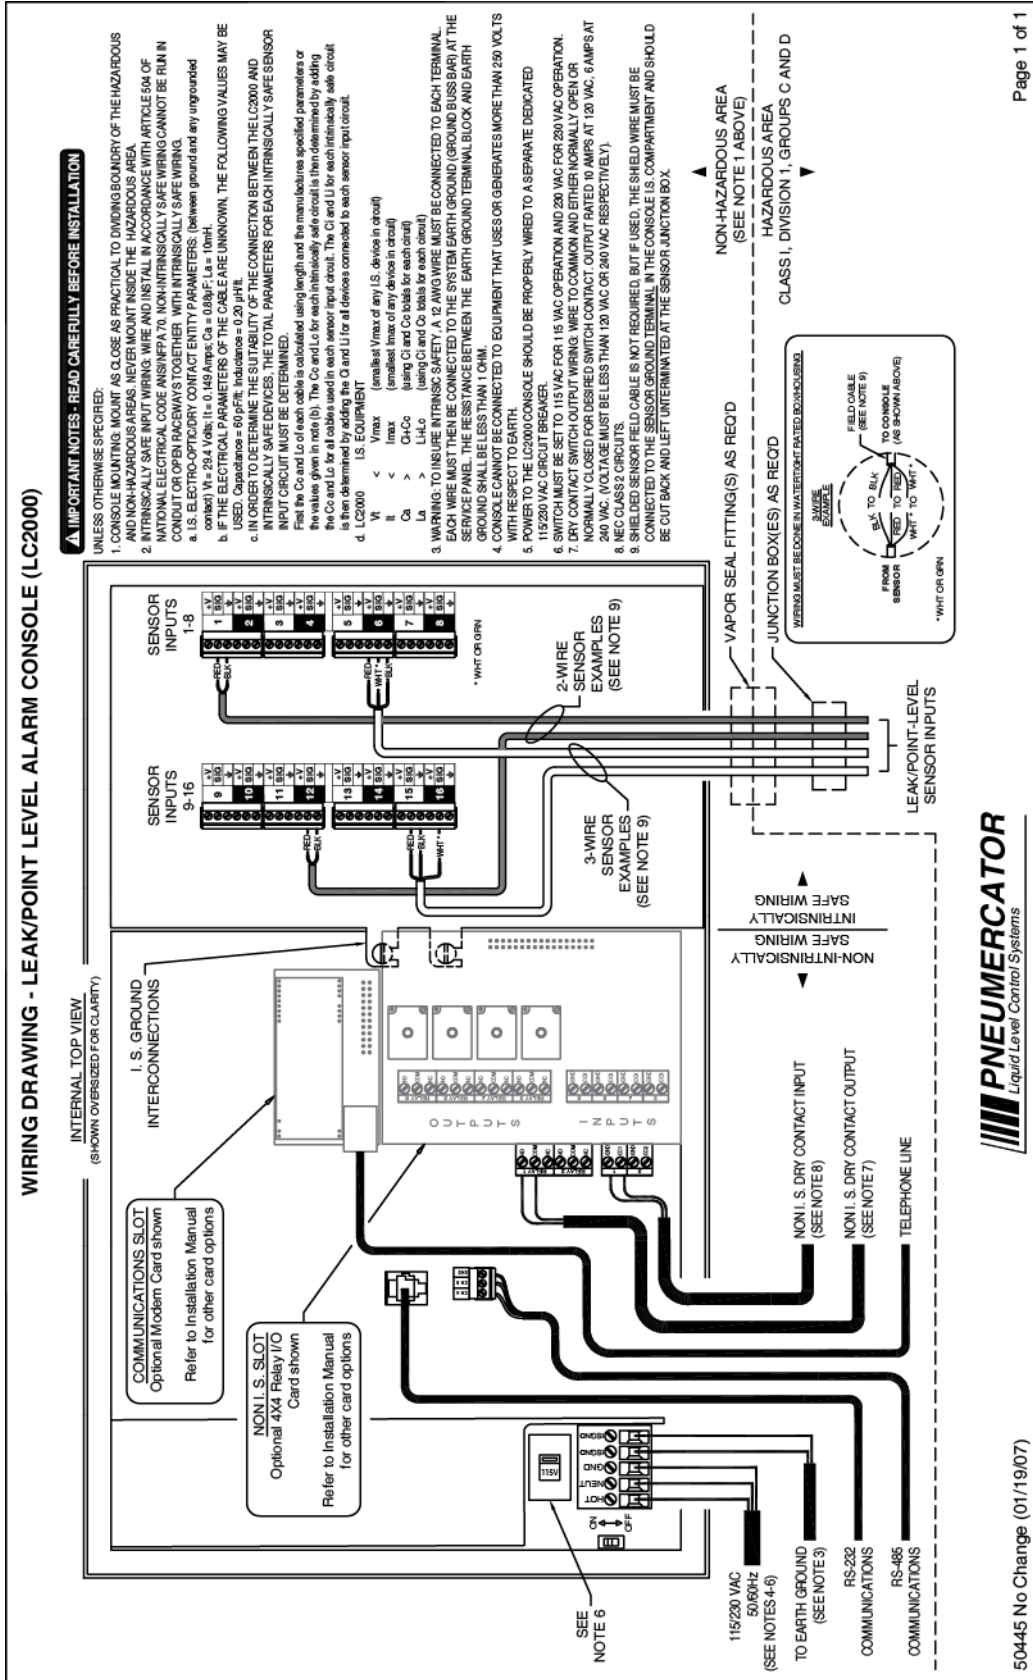

Figure 3-1 - Intrinsically Safe Wiring Diagram
1. Review Figure 3-1 to ensure that all of the safety/wiring requirements have been met.
Figure 3-1 illustrates wiring installation requirements that must be followed in order to establish and maintain an intrinsically safe installation. Careful attention must be given to maintaining mechanical segregation between intrinsically safe and non-intrinsically safe wiring throughout the installation.
8. Connect sensor wires to the LC2000 INPUT TERMINALS following Figure 3-1. Maintain correct polarity between wires and respective terminal points.